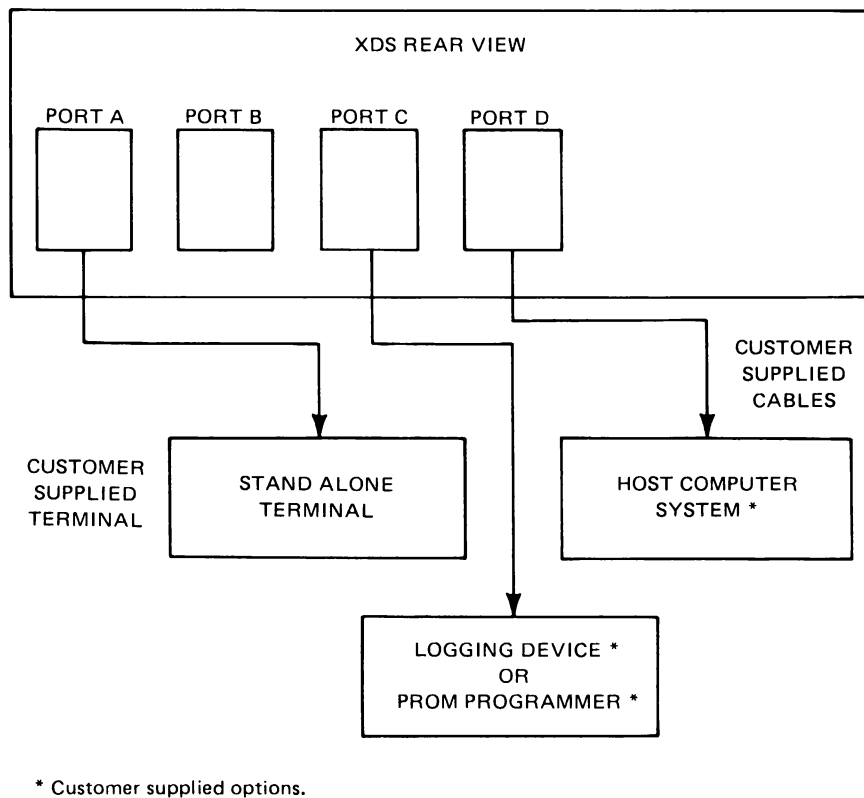

FIGURE 2-10. XDS CONNECTION TO A HOST COMPUTER
2.3.2.2 Hardware Requirements. The EIA communications link's interface signals and pin out is given in Table 2-2. The cabling requirements are shown in Figure 2-10.
A logging device such as a printer may be connected to the XDS. The logging device will record all transactions that take place on the terminal. The logging device is connected to Port C as shown in Figure 2-10.